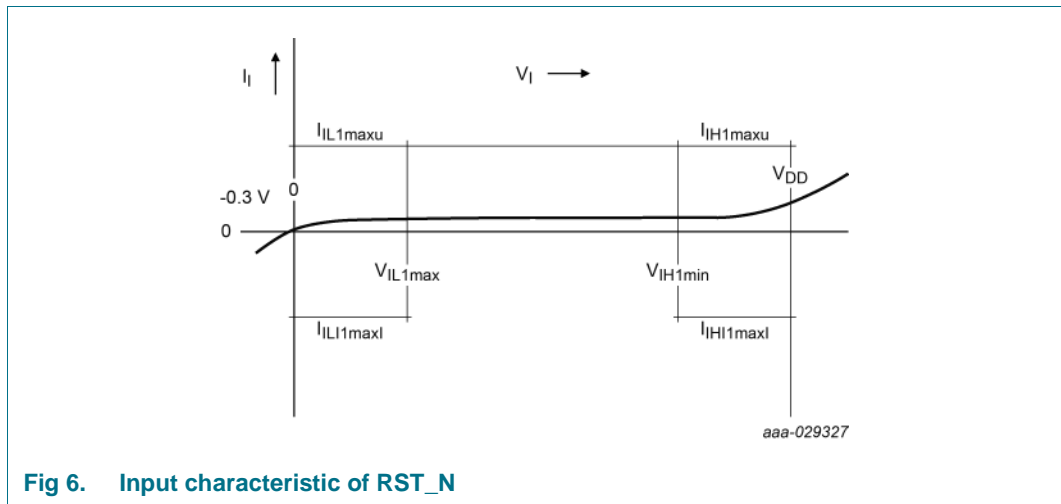

Fig 6. Input characteristic of RST\_N
- [3] The active low RST\_N input internally has a resistive pull-down device to VSS. Accordingly a current is flowing into the pad voltages above 0 V. Figure 6 shows the RST\_N input characteristic.